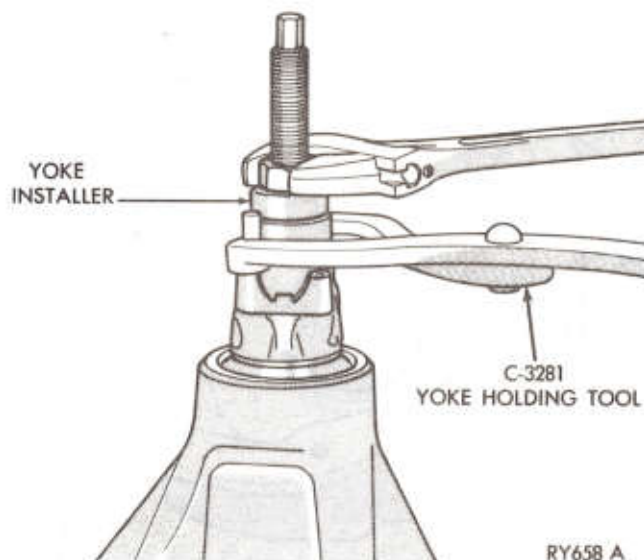

Fig. 37—Installing Pinion and Yoke
(3) Install pinion into carrier followed by the outer pinion bearing cone, (slinger if used), end yoke, washer and nut. Use Tool C-3718 and Tool C-3281 (Fig. 37).